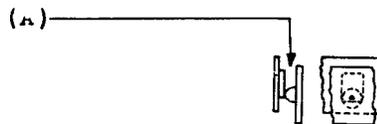

Fig. 4 - Contact Alignment (Showing Maximum Permissible Misalignment)
2.08 Contact Alignment (Film Chamber Contact) - Fig. 4(A): The point of contact shall fall wholly within the boundary of the opposing contact. Gauge by eye.